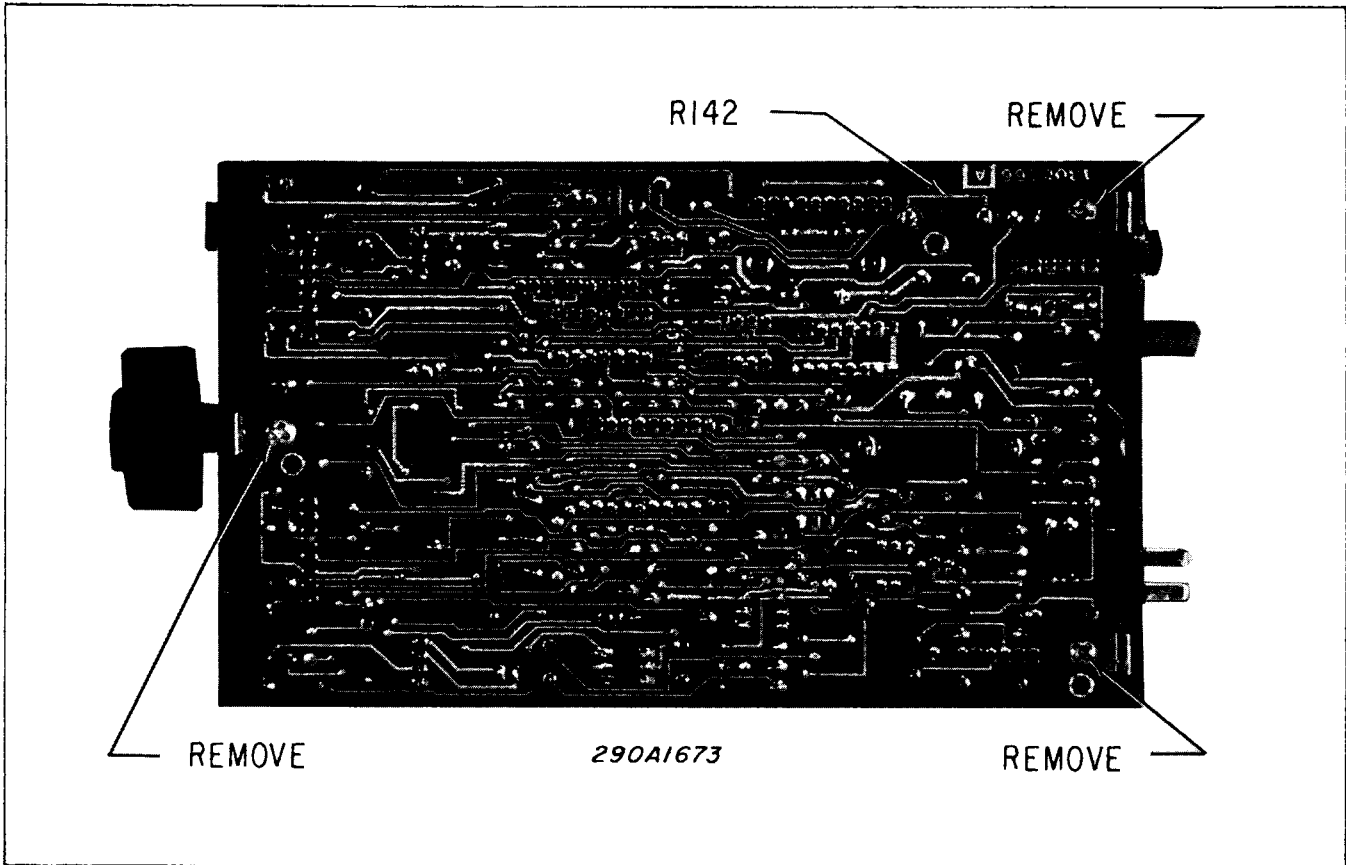

Figure 6-1 Siren Amplifier Printed Circuit Board Removal
1. To remove the Main Circuit Board remove the three screws that hold the board in the Siren (see figure 6-1). Disconnect the two connectors at the rear of the board and lift the board out of the chassis.